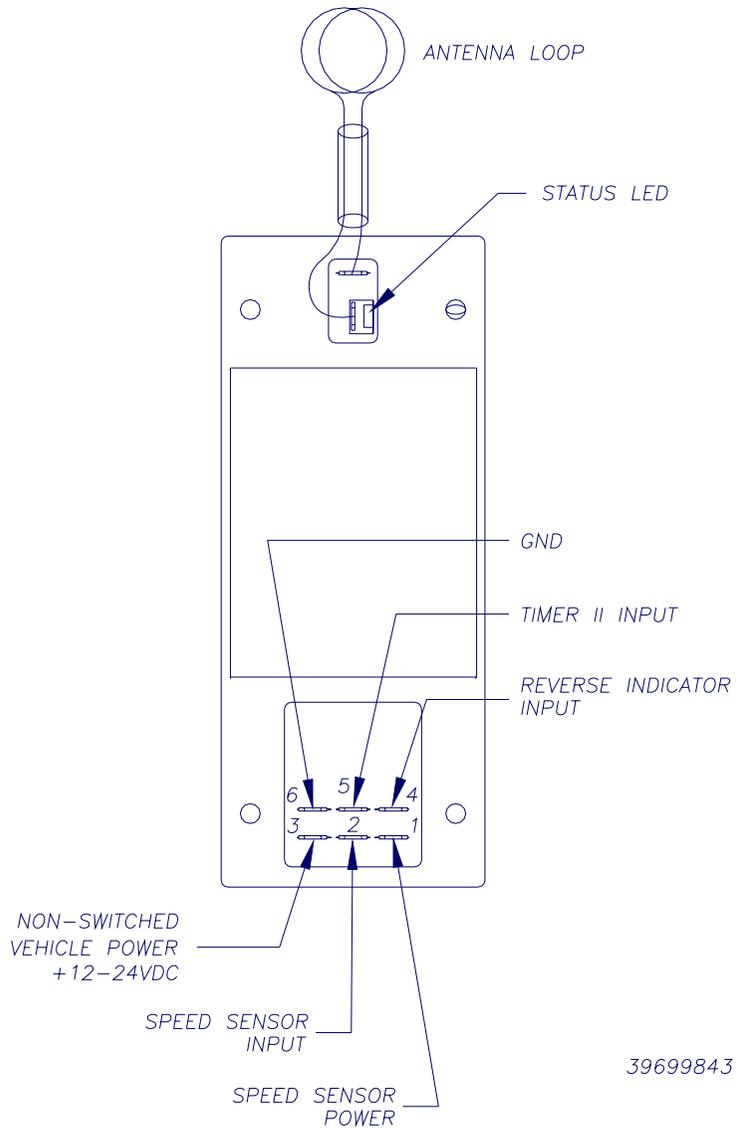

Figure 12: VIU Wiring Diagram
Figure 12 on page 29 is a VIU sub-system wiring diagram.
This wiring harness typically consists of three wires (see *Figure 12* on *page 29*) running from the engine compartment or transmission gear box to the trunk. The harness should run along the vehicle side on which the fuel tank inlet is located. Whenever feasible, use existing conduit runs; otherwise, attach the harness to chassis supports.
4. Attach female spade lugs to the wiring, then attach the spade lugs to the VIU's terminals. Connect vehicle battery POS to TERMINAL 3, and GROUND to TERMINAL 6 of the 6-pin VIU connector (*Figure 12 on page 29*).